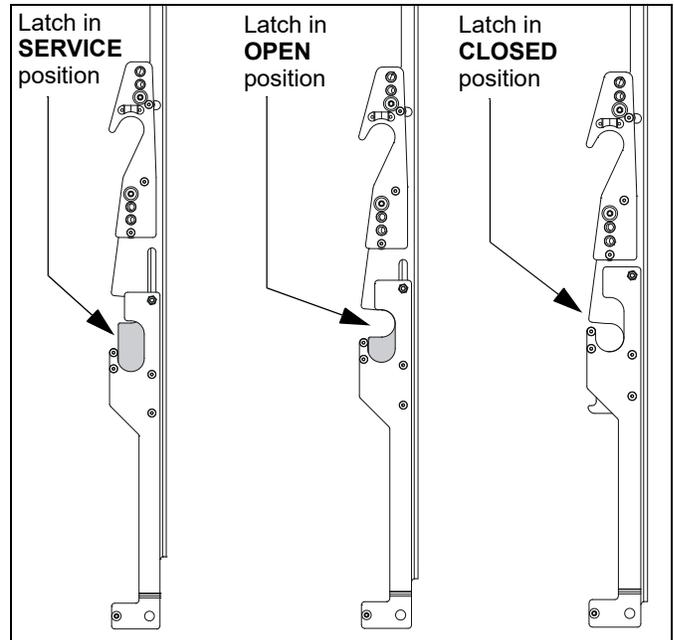
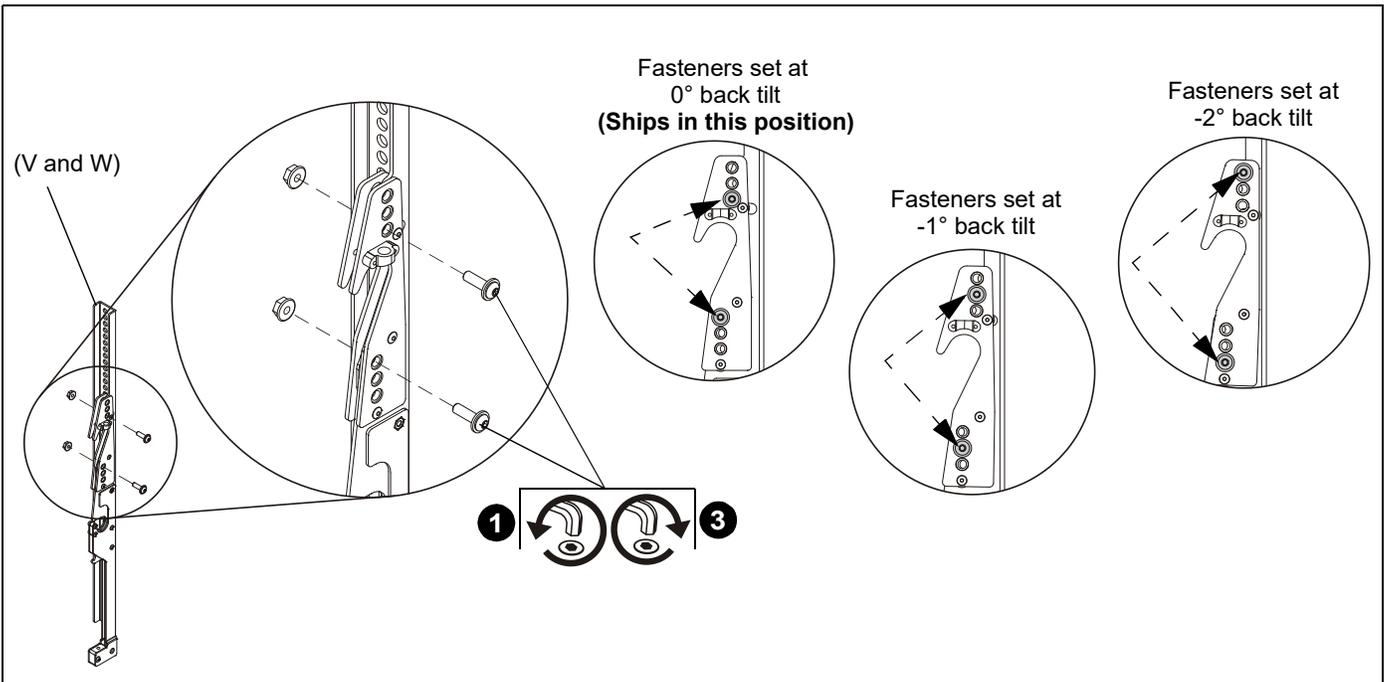

Figure 14
Figure 19
IMPORTANT ! : Completely extend bottom of interface brackets (by pulling downward) to set interface brackets in **SERVICE** position before hanging on top rail. (See Figure 14)
4. Open latch by pushing bottom of interface bracket up to **OPEN** position, latching interface brackets to lower rail, and then push up from bottom of interface bracket again until the interface bracket is in **CLOSED** position. (See Figure 14)
NOTE: The interface brackets (W and X) ship in the 0° tilt position. (See Figure 19)
1. With interface brackets in **CLOSED** position (See Figure 14), remove two fasteners holding tilt compensation in place on each interface bracket (W and X). (See Figure 19)
2. Adjust interface bracket for -1° or -2° back tilt, as required. (See Figure 19)
3. Tighten two fasteners (removed in Step 1). (See Figure 19)